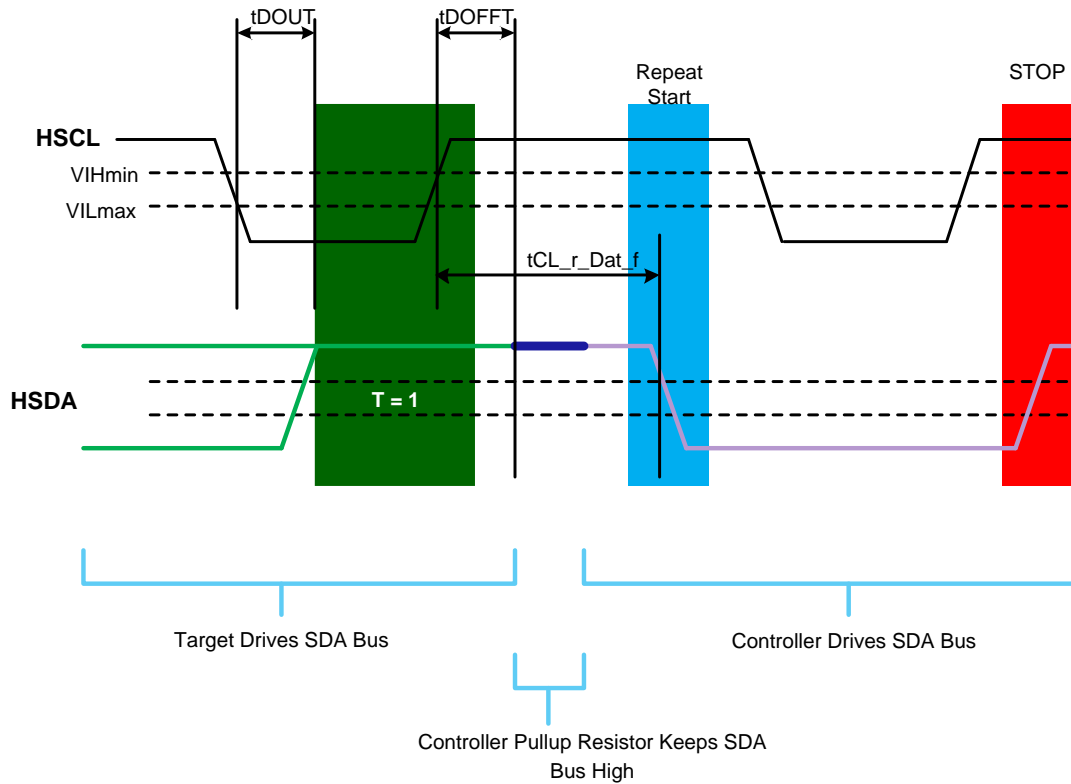

Figure 11. T = 1; Host Ends Read with Repeated START and STOP Waveform
6. See Figure 11 to see how Target device ends the operation followed by Host STOP operation.
6. See Figure 11 to see how Host ends Target device operation.